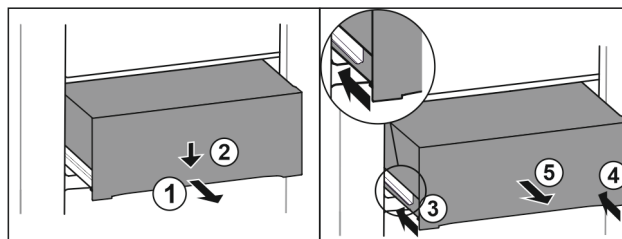

Fig. 134
- Pull out drawer half-way. Fig. 134 (1)
- Push the drawer down at the front. Fig. 134 (2)
- Push the left rail in by about 2 cm. Fig. 134 (3)
- Push the right rail in by about 2 cm. Fig. 134 (4)
- Remove drawer to the front. Fig. 134 (5)